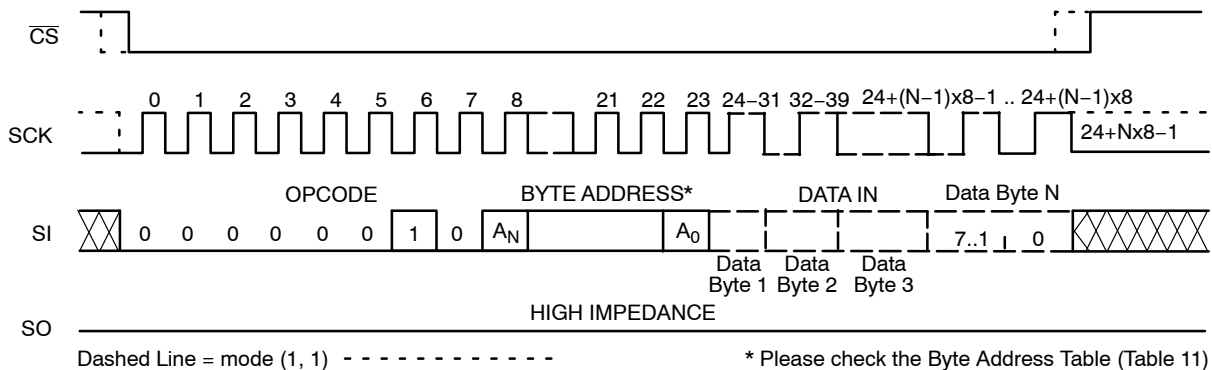

Figure 6. Page WRITE Timing
After sending the first data byte to the CAV25128, the host may continue sending data, up to a total of 64 bytes, according to timing shown in Figure 6. After each data byte, the lower order address bits are automatically incremented, while the higher order address bits (page address) remain unchanged. If during this process the end of page is exceeded, then loading will "roll over" to the first byte in the page, thus possibly overwriting previously loaded data.
The additional 64-byte Identification Page (IP) can be written with user data using the same Write commands sequence as used for Page Write to the main memory array (Figure 6). **The IPL bit from the Status Register must be set (IPL = 1) using the WRSR instruction, before attempting to write to the IP.**